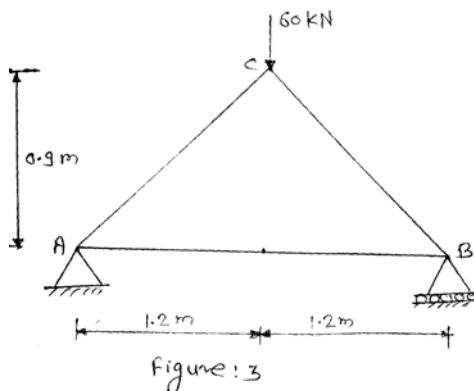

Figure: 3
- b)** Determine the horizontal displacement of the joint C of the pin jointed frame as shown in figure 3. The cross section area of AB is 500 mm^2 and AC and BC is 750 mm^2 . Assume $E = 200 \text{ kN/mm}^2$. [9]